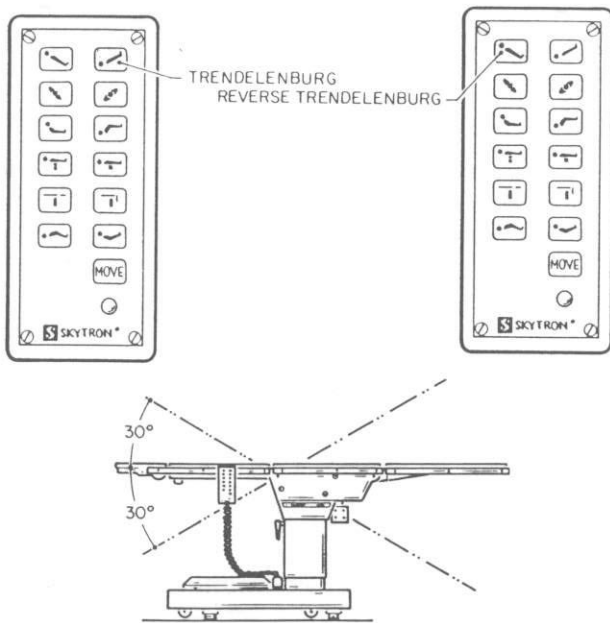

Figure 2-5. Trendelenburg Positioning
- b. Trendelenburg. To place the table in a trendelenburg (head down) position, push the TREND button. See figure 2-5. Tilt of up to 30° may be obtained. To place the table in a reverse trendelenburg (head up) position, push the REV TREND button. Tilt of up to 30° may be obtained.